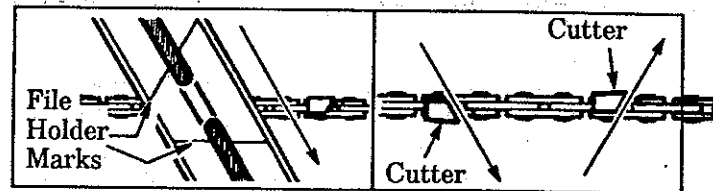

Figure 29
- b.) Align the 25° file holder marks with the bar and parallel to the center of the chain. Figures 29 & 31.